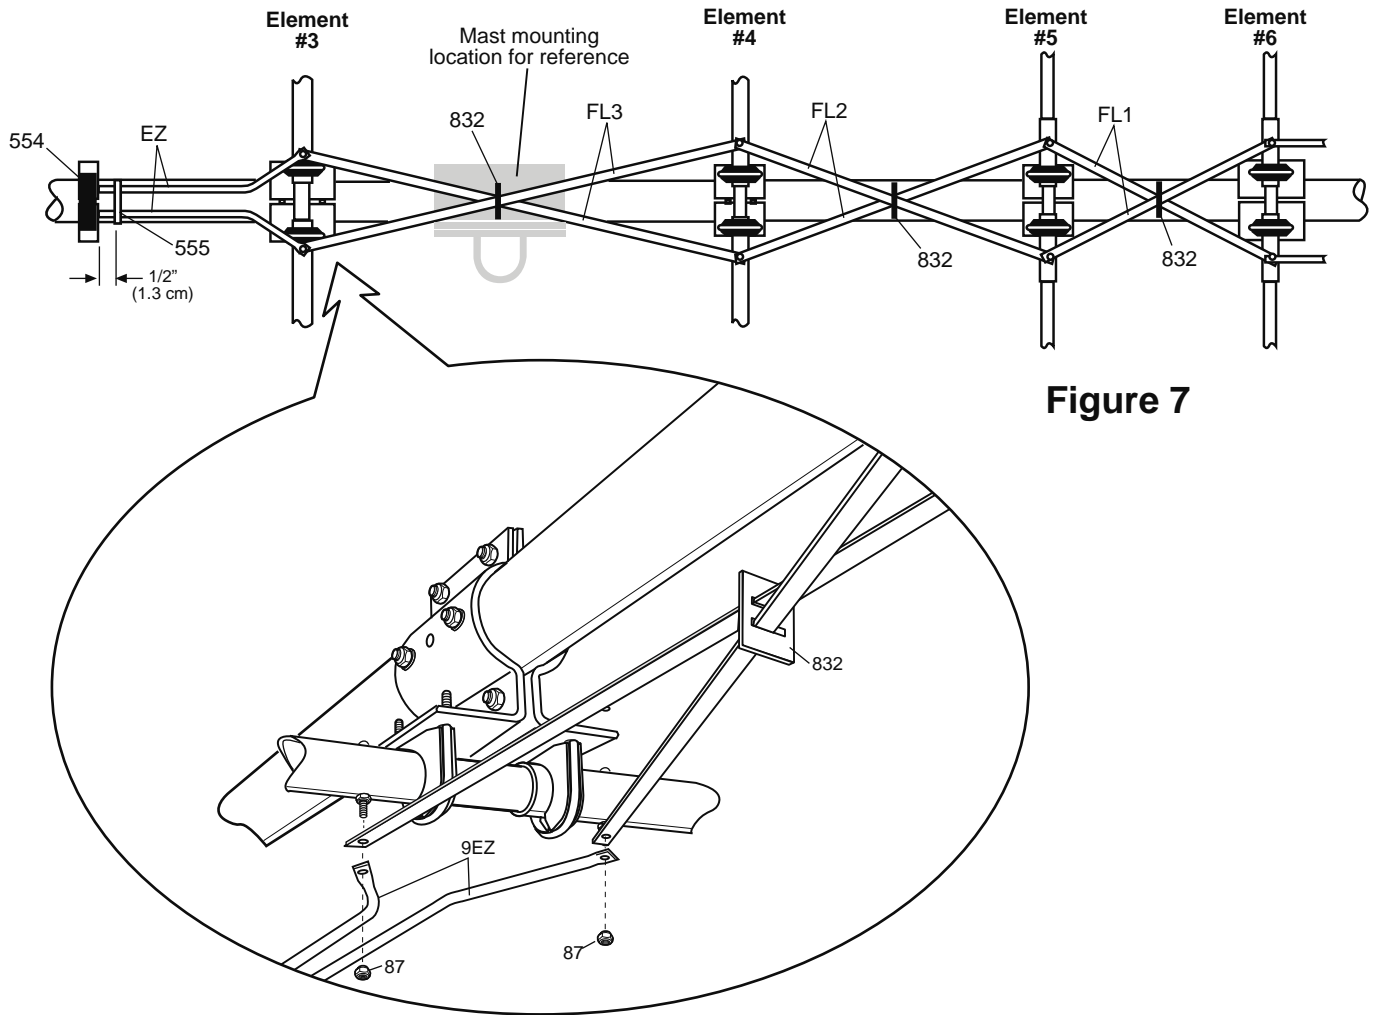

Figure 7
The feed system consists of 3 sub-assemblies. They are the feed-straps, the tuning-tube insulator and the matching network. Figure 7 illustrates the 3 pairs of feed-straps (FL1, FL2, FL3). Refer to the Feed System Subassembly Parts List for the hardware required to install the straps. Slide a feed-strap insulator (832) on to each pair of feed-straps to space and insulate the straps. Elements may be rotated slightly during feed strap attachment. Tighten Cush-A-Clamps on Elements #3, #4, #5 and #6.